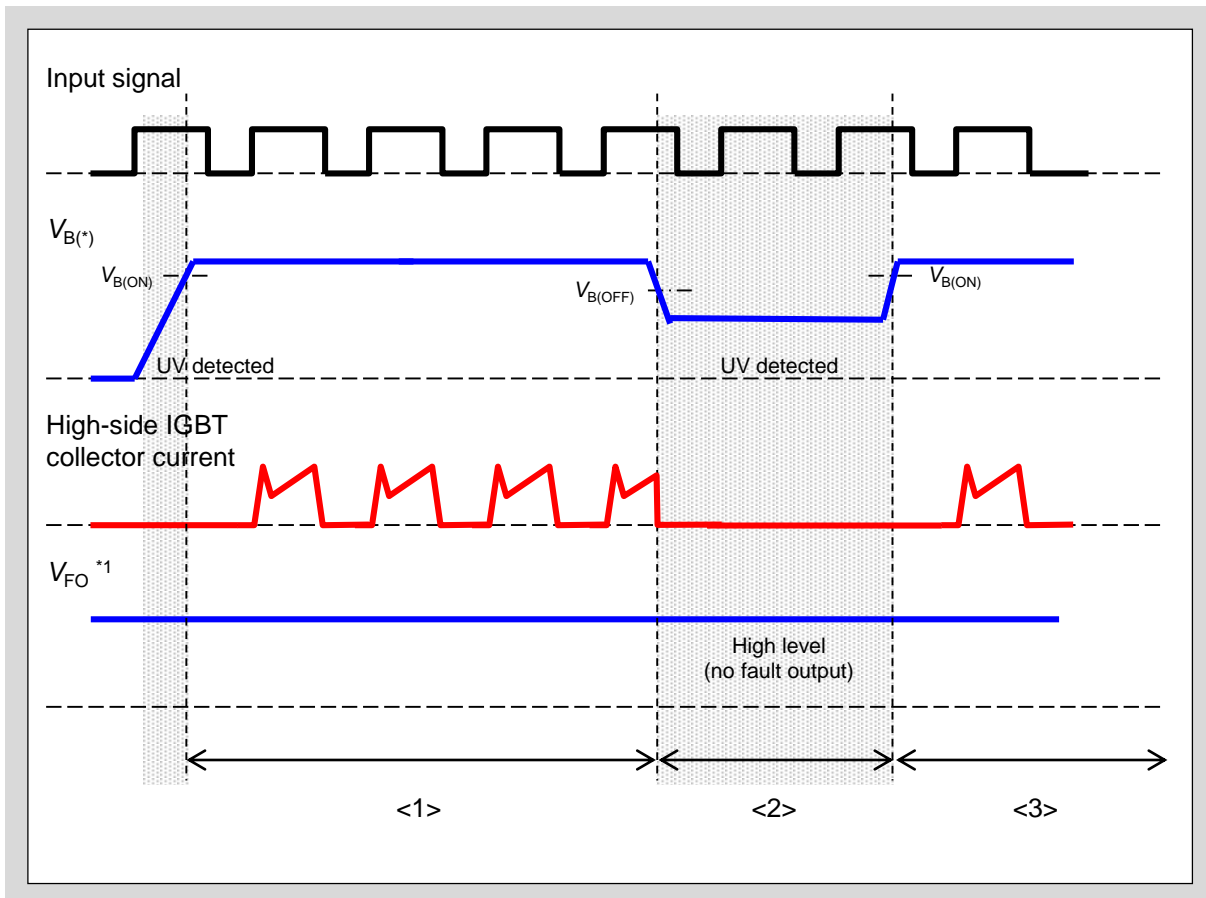

Fig. 3-5 UV protection operation sequence of $V_{B(*)}$
- Fig.3-5 shows the UV protection operation sequence of $V_{B(*)}$.